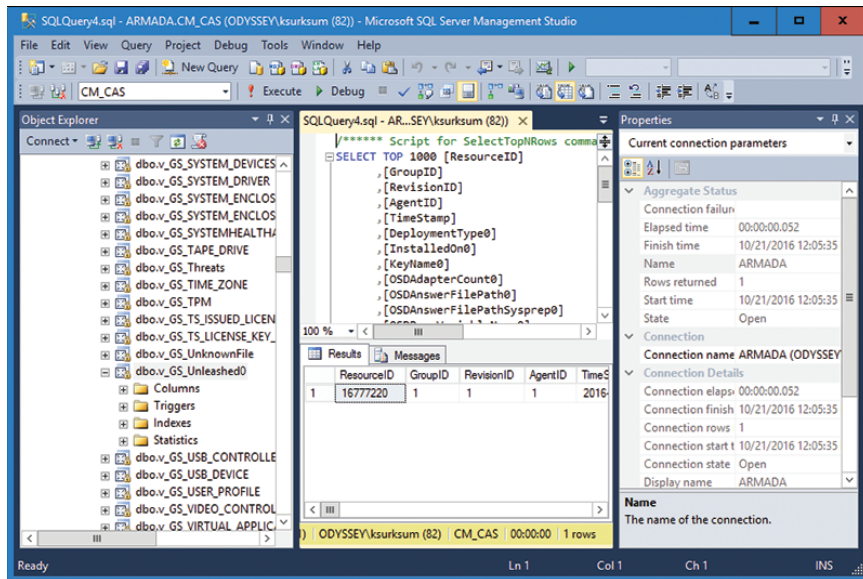

FIGURE E.7 SQL Server Management Studio, showing the top 1,000 rows.
3. Verify that the necessary database tables were created by opening SQL Server Management Studio. Connect to the server hosting the ConfigMgr site database and open the database. Under Views, you should see a table called `dbo.v.GS_Unleashed0`. Select this table, right-click, and choose **Select Top 1000 rows** to query the table. If any information is in the table, it is reflected in the query results, as shown in Figure E.7.